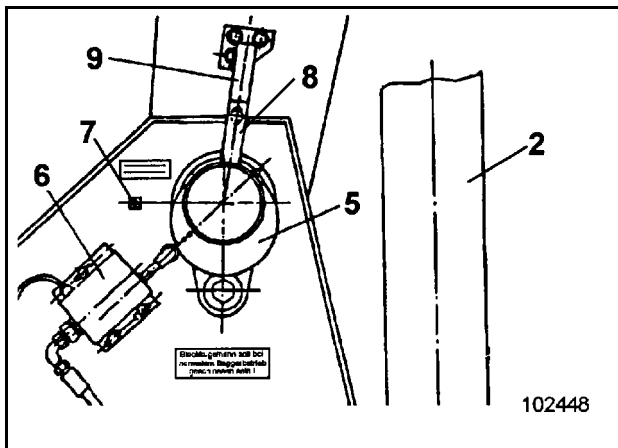

Fig. 3
Screw catches (8 and 9, Fig. 3) apart.
Depress the switching tappet of the electro-hydraulic control unit (6, Fig. 3) by hand or extend the boom cylinders (2) completely until the maximum working pressure is reached.